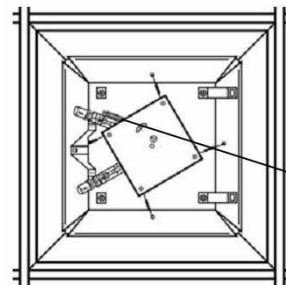

Fig. 2 Remove spring to drop blades open for balancing
- b. Unhook tension spring from bracket adjacent to thermal actuator. See Fig. 2.